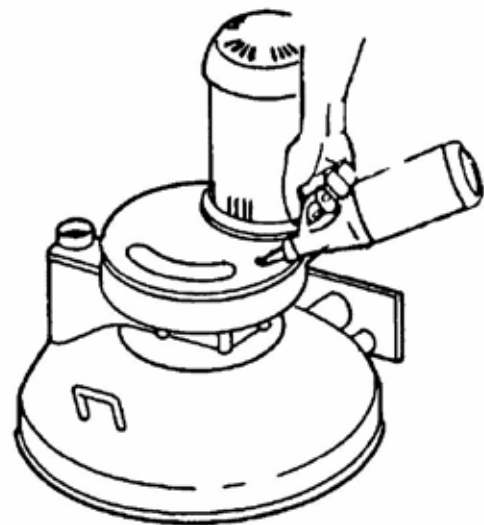

Figure 22. Use Quality 80 - 90 Weight Gear Oil
3. If oil needs to be added, use quality 80 - 90 weight gear oil (see Figure 22).